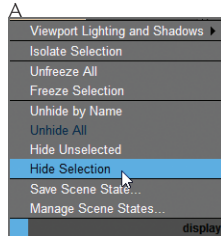

FIGURE 3.18
14. From the quad menu, select Hide Selection, as shown in Figure 3.18.